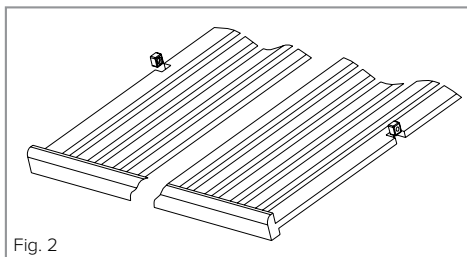

Fig. 2
- To remove a shelf from the AWC300 or 600, first remove all bottles from the shelf, then pull the shelf forwards until the groove on either side of the shelf is level with the plastic peg on either side of the cabinet (as shown in Fig 2). Then lift the shelf up and pull forwards.